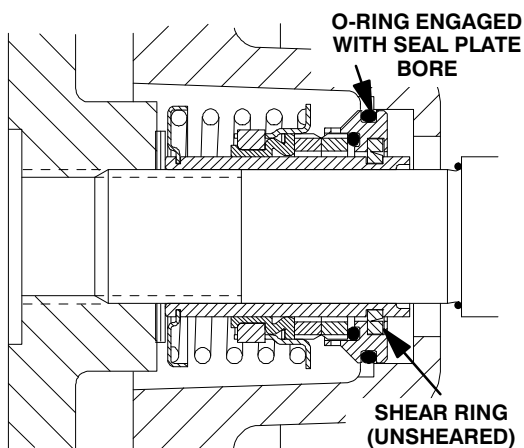

Figure 7. Seal Partially Installed
Clean and inspect the impeller as described in **Impeller Installation and Adjustment**. Install the full set of impeller shims (2) provided with the seal and screw the impeller onto the shaft until it is seated against the seal (see Figure 7).